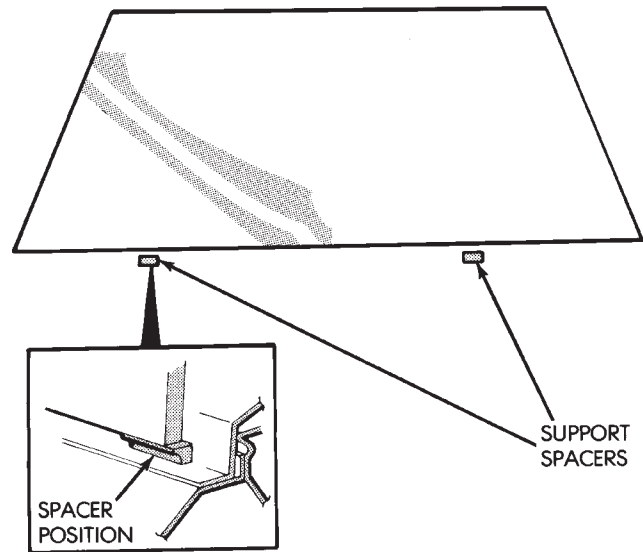

Fig. 13 Windshield Glass Bottom Support Spacers
(4) Clean the outer edge of windshield glass with naphtha or a equivalent product.
(5) Prime outer perimeter of interior side of glass 16 mm (5/8 inch) from edge. Use a wipe-off type urethane primer and wipe glass dry after primer application.
(6) Install two support spacers at the bottom of the windshield glass (Fig. 13).